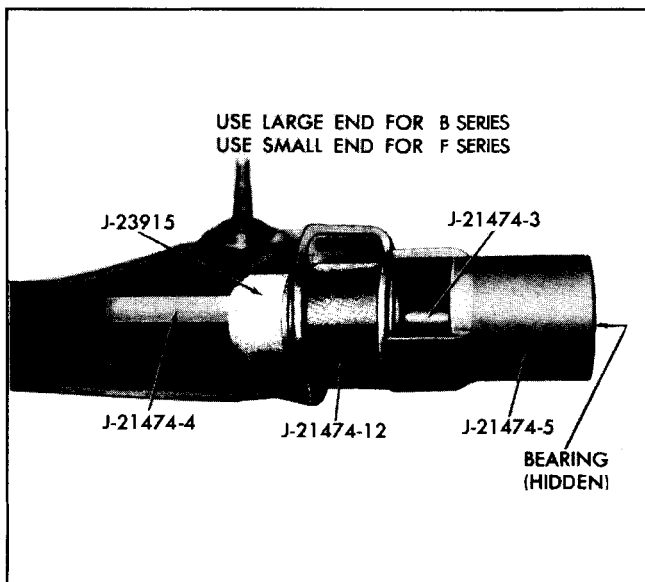

Fig. 3-29 Removing Lower Control Arm Front Bushing (B & F Series)
1. Install bushing in control arm by arranging tools as shown in Fig. 3-29.